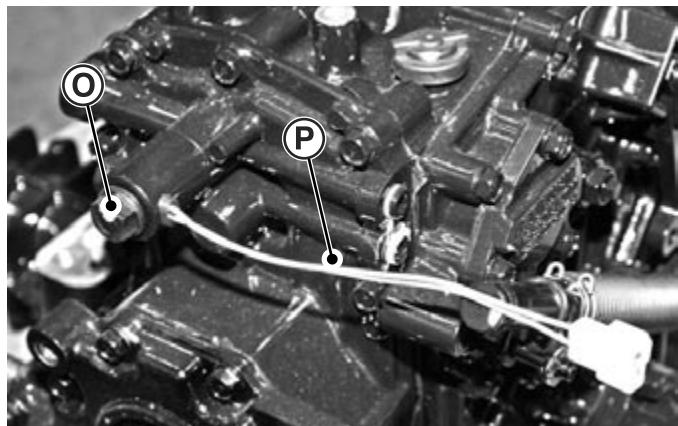

Fig. 11, PTO Electrical Solenoid
10. Tighten plastic nut (O) to 4.9 N·m (43 lb-in.). (Fig. 11)